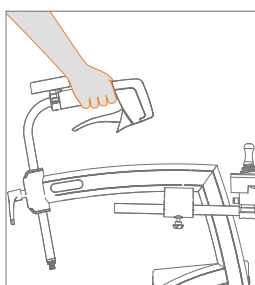

Figure 65: Driving.
- While walking, keep the fingers loosely around the foam handgrips (**Figure 65**). You can also keep them around the brake handles, with your thumb on the inside of the handle.